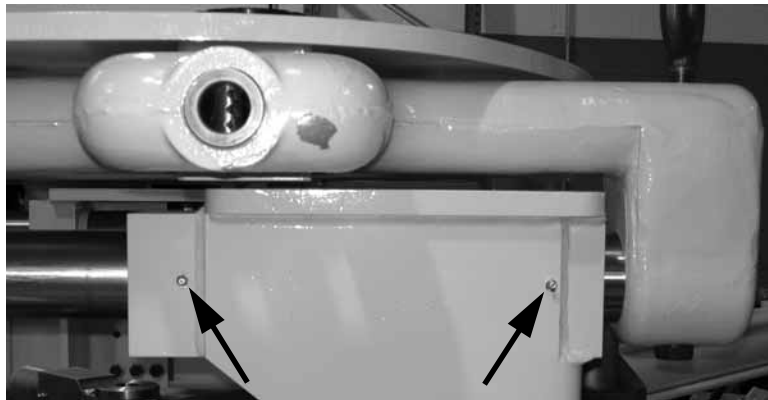

Figure 6-3. Grease fittings for the frame guide shaft on the open side of the frame.
- Two on the open side of the frame for the frame guide shaft—Figure 6-3.